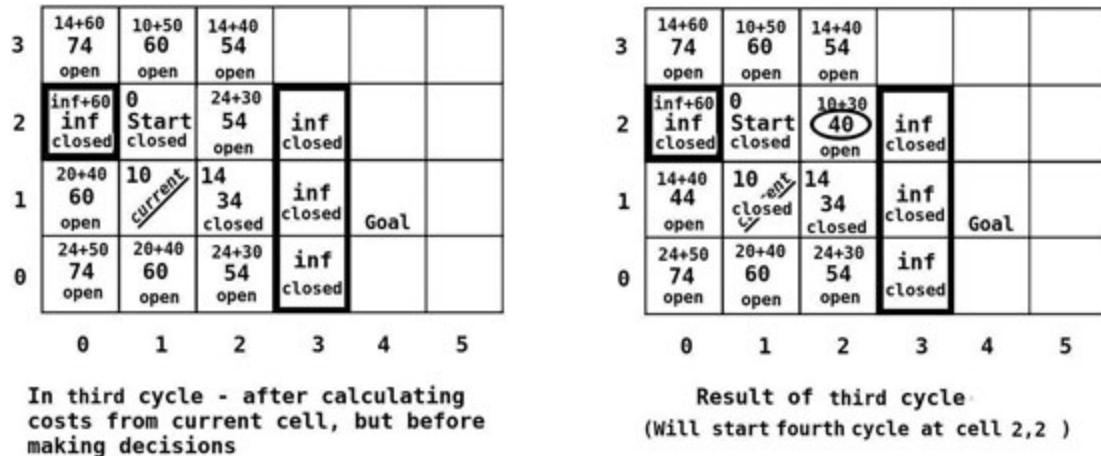

Figure 13.10: The third A* cycle
see is leading away from the desired path, but you'll see shortly how the heuristic quickly gets us back on track. We make 1,1 the new current and, because it is already created and in the open list, we can just go back to the stop of step 4 and proceed with our third cycle, illustrated in the following figure 13.10.
Step 4: (The third cycle. Refer to figure 13.10)
Most of the current cell's neighbors are already closed, so we only have to check the three in the top row. If you look back at the result of the third cycle (in figure 13.10), you can see that the two cells already in the open list already have the lower F cost, so we do not update them with the new calculations or change their parent cell. The new cell 3,3 is created and added to open, and its parent cell is set to 2,2 – the current 2,2 is closed and removed from open, and a quick scan of open cells shows us that our current for cycle five will be cell 0,1. Cycle five is illustrated in the following figure 13.12.